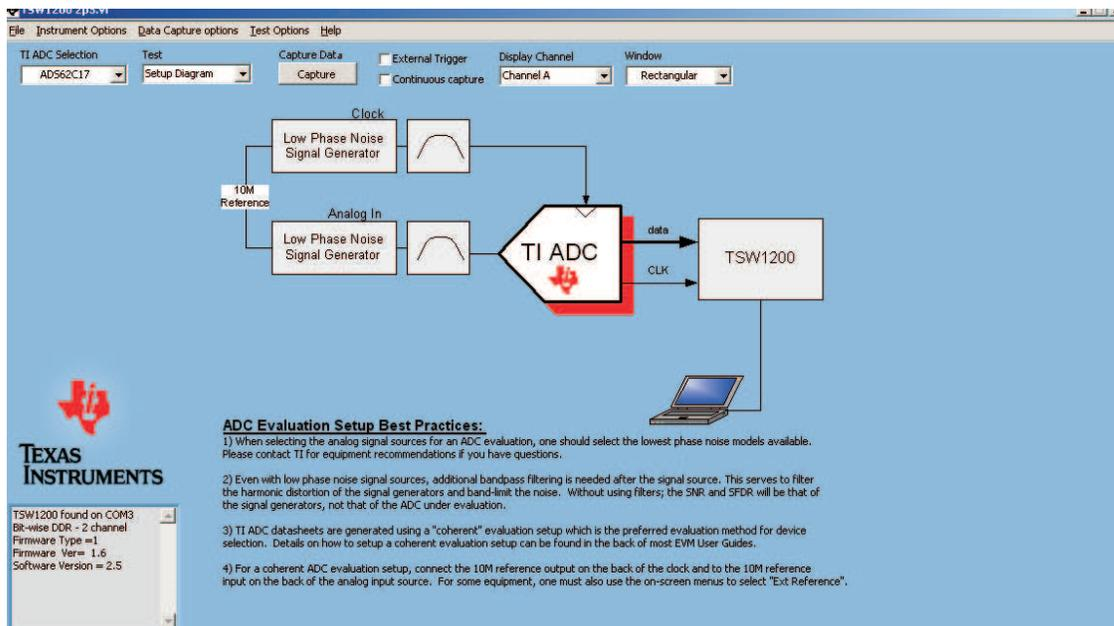

Figure 18. TSW1200 GUI
2. Load TSW1200_v2p5 or later. The TSW1200 GUI appear as shown in Figure 18